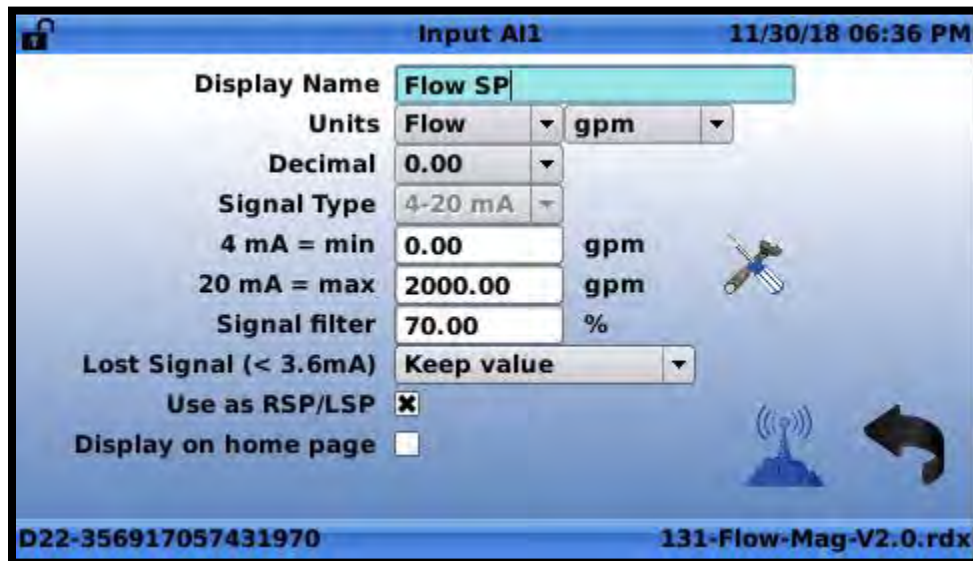

Figure 4.19
1. Use the “Up” and “Down” buttons to highlight an alpha numeric entry field. When the field is highlighted, the background color will turn from white to light blue as shown in **FIGURE 4.19**: